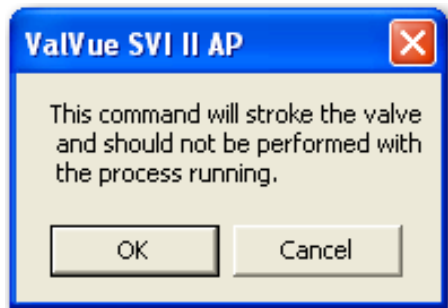

Figure 61 Running Setup Wizard Dialog
2. Click **OK** and Figure 61 appears.